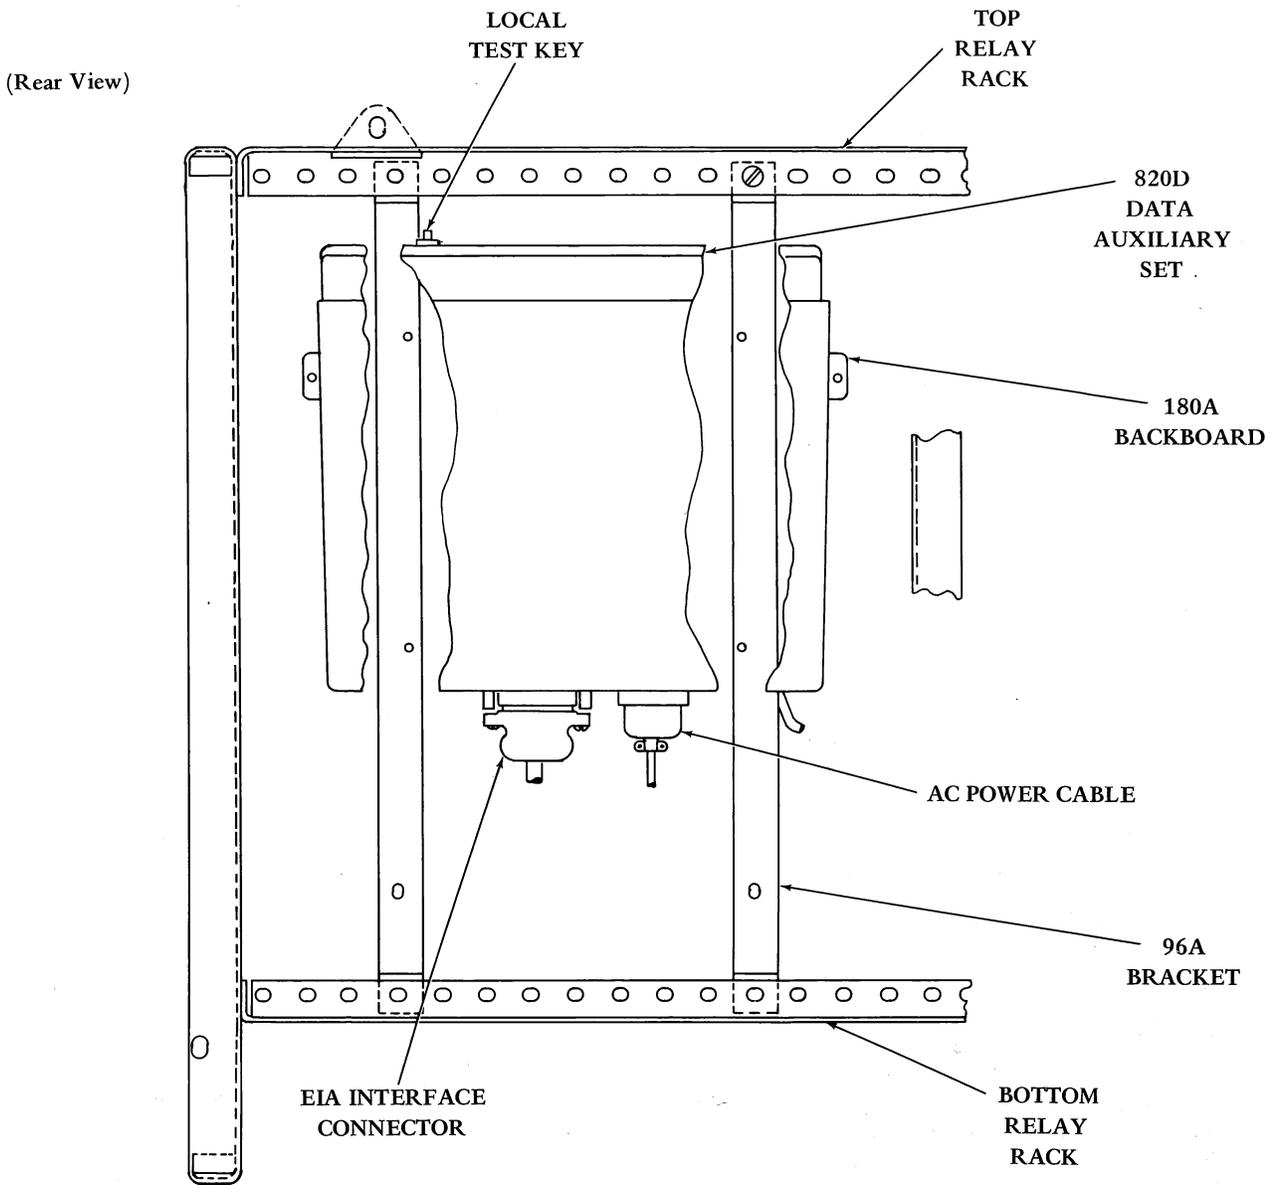

Figure 19 - Mounting of DAS 820D-L1A on M35
- 4.44 Mount the backboard and bracket assembly to the relay rack in the set cabinet. Secure with four TP153442 screws, TP2669 lockwashers, and TP3538 flat washers (Figure 19).
- 4.45 Mount the 820D-L1A Data Auxiliary Set to the 180A backboard securing it with the two clamps on each side of the backboard (Figure 19).